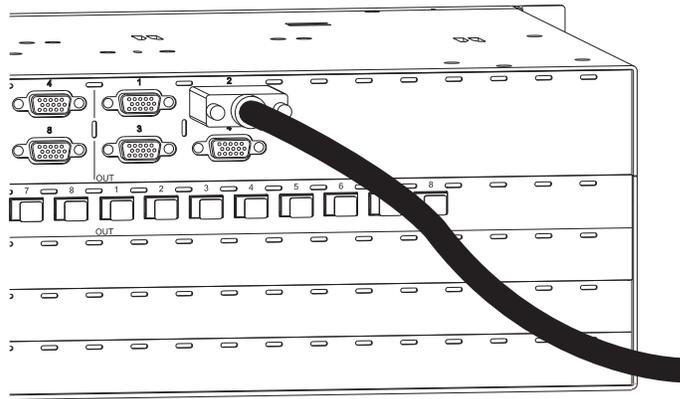

FIG. 32 Fasten cable onto input or output HD-15 connector
1. Fasten the cables onto the input and output HD-15 connectors (FIG. 32).